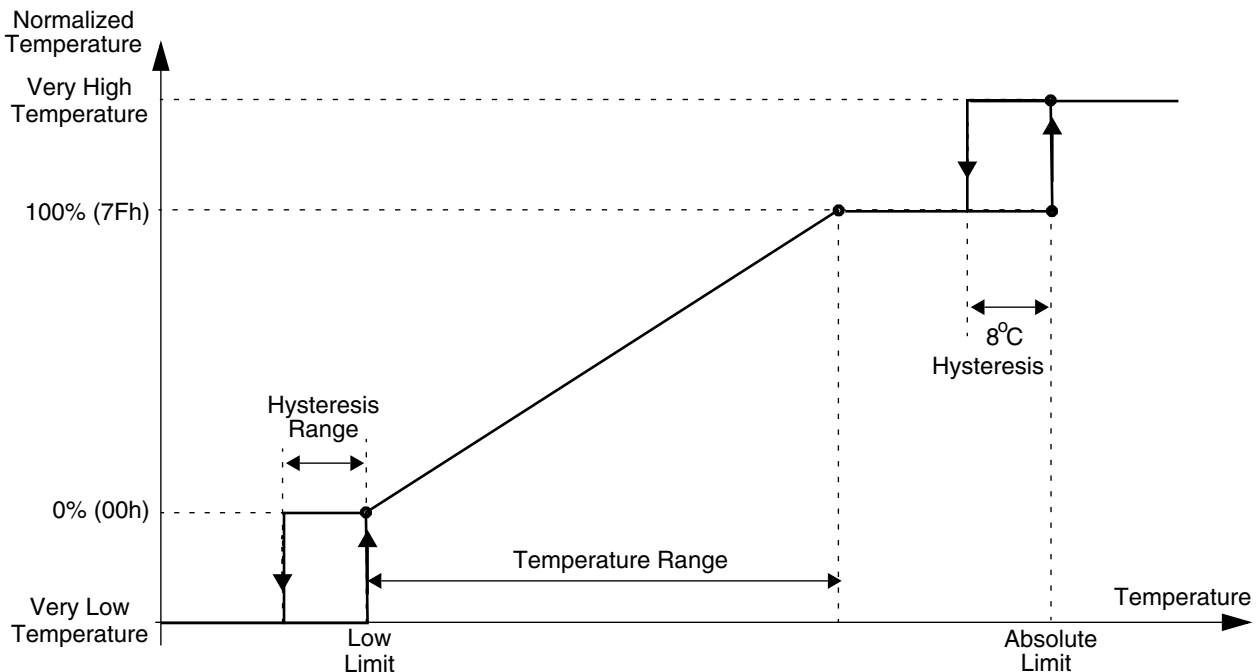
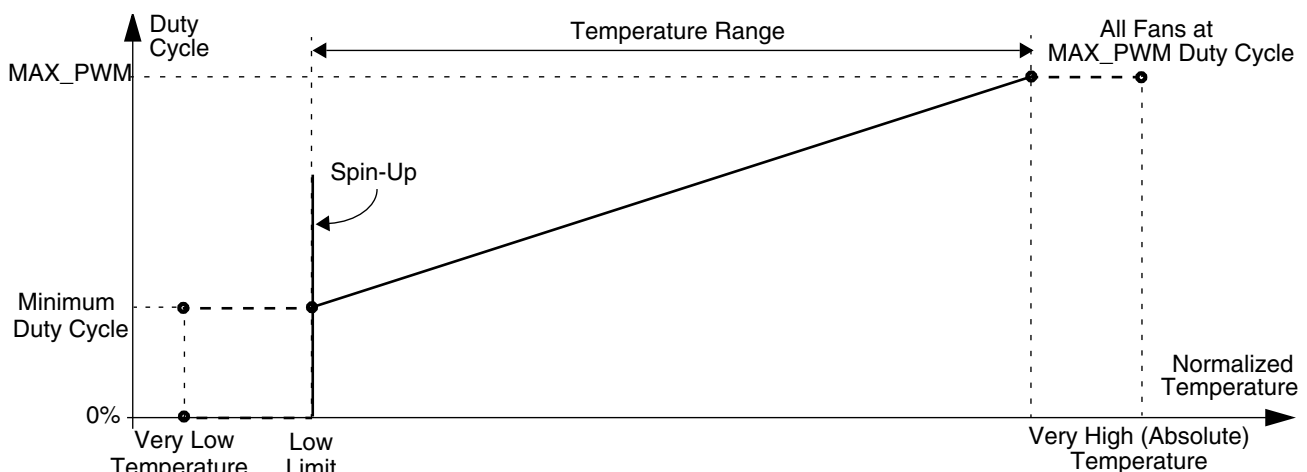

Figure 31. Temperature Normalization
Figure 32. Automatic Fan Control Algorithm
- The HM implements a linear transfer function between the temperature data of the associated zones and the duty cycle of the FANPWM output. The translation between temperature and duty cycle is done in two stages. In the first stage the temperature is translated to unsigned normalized temperature (see Figure 31 on page 135). In the second stage the normalized temperature is translated to a duty cycle value (see Figure 32 on page 135). The use of the normalized temperature is essential if more than one temperature zone supplies temperature information for controlling the fans.
8.0 Health Management (HM) (Continued)